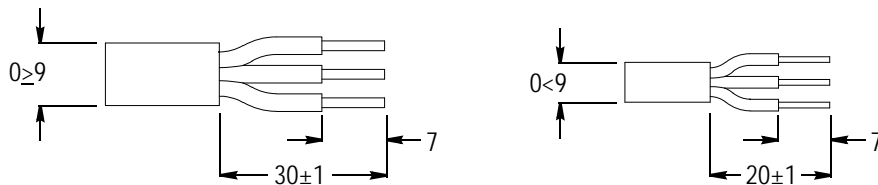

Fig. 1
1. Remove the outer insulating jacket and strip the wires as shown in Fig. 1.